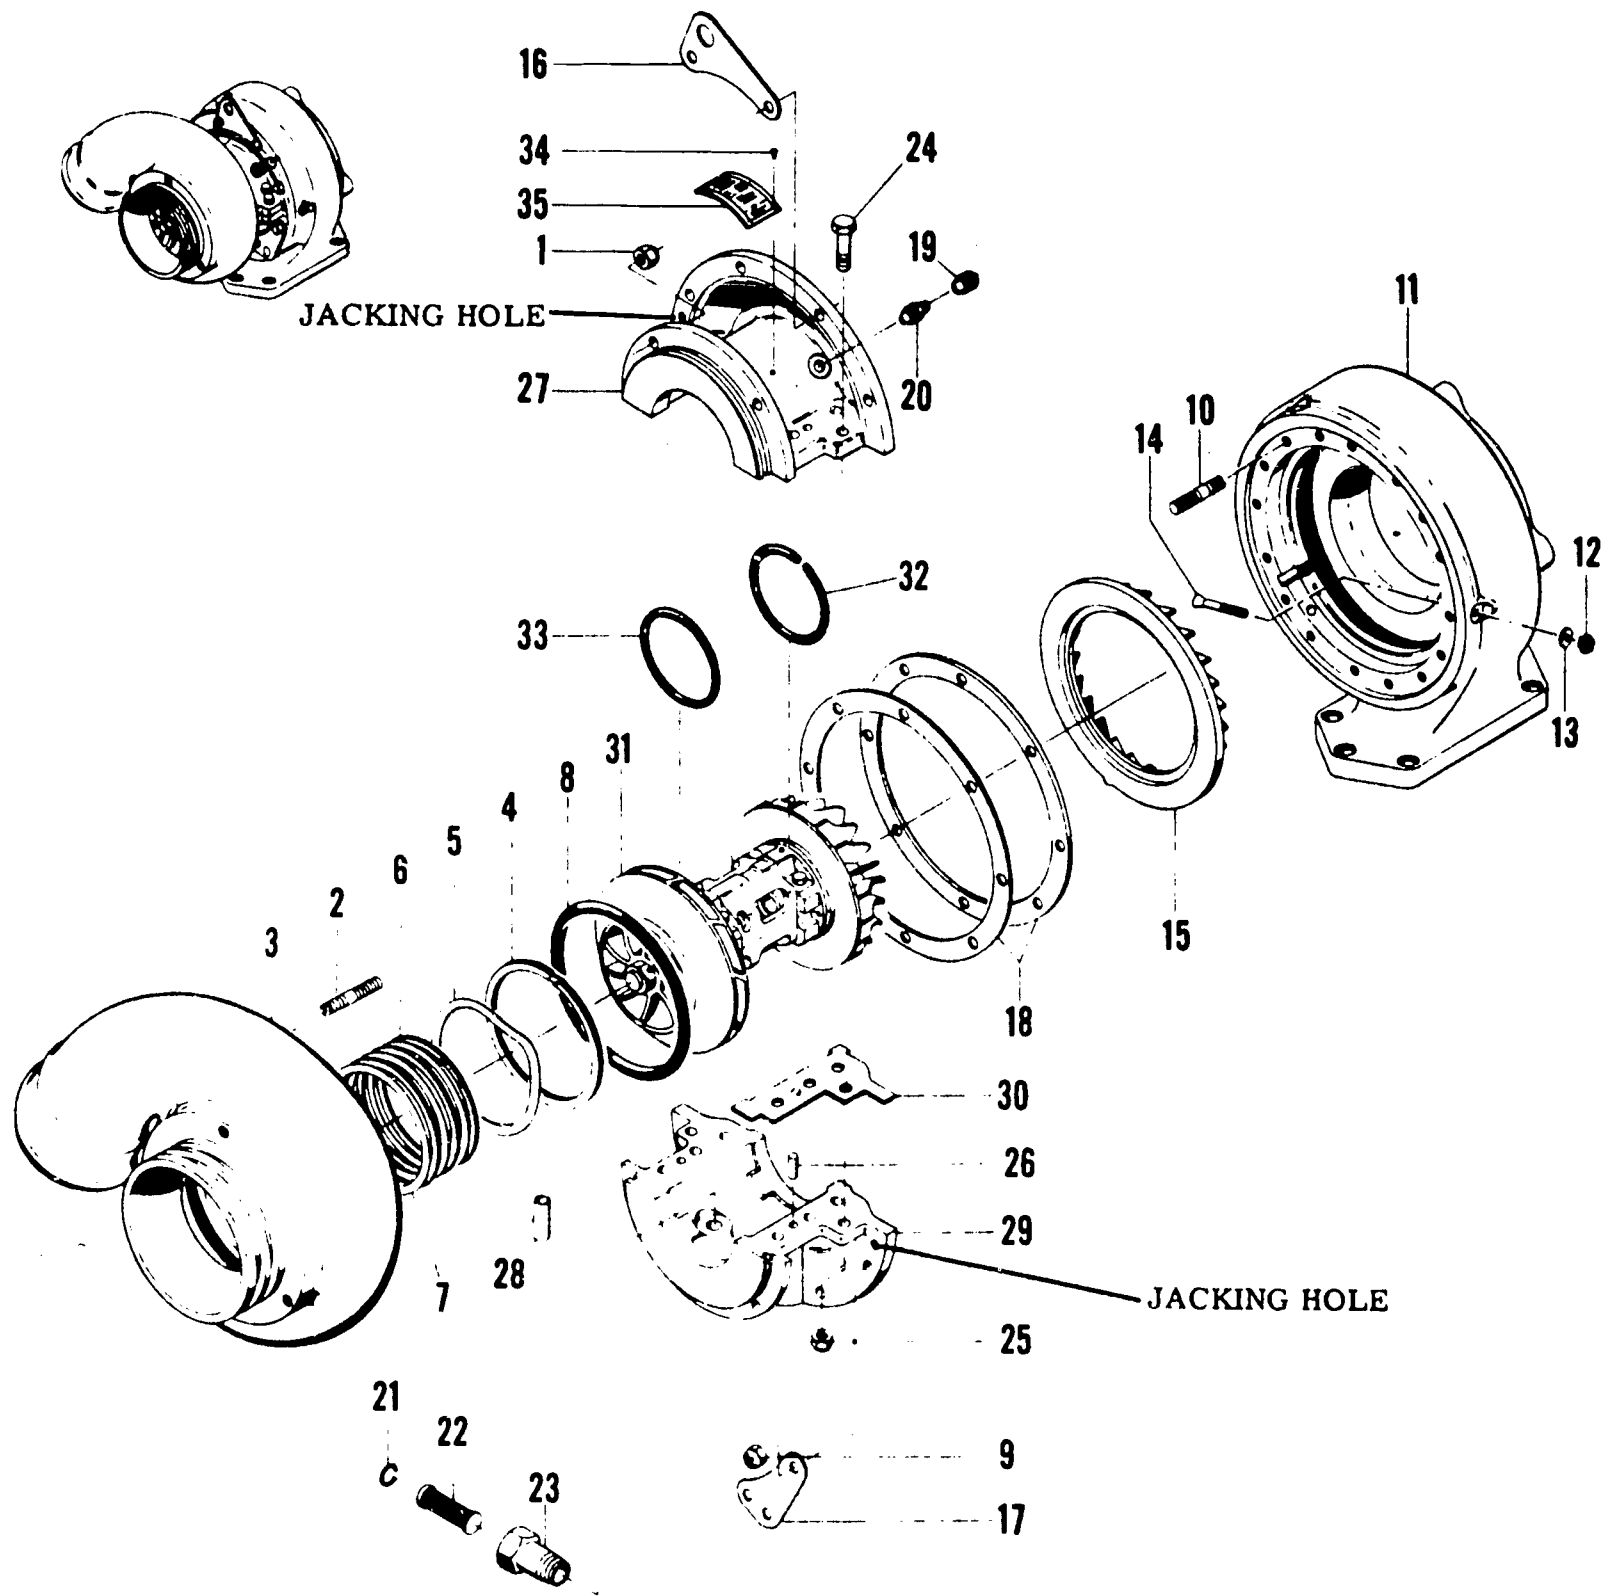

Fig. 17 - Turbocharger details and relative location of parts
BEARING CLEARANCE INSPECTION -- This determines whether or not it is necessary to replace rotating cartridge assembly (31), shown in Figure 17. Prior to checking the bearing clearance, it is necessary to remove the air inlet exhaust discharge ducting from the turbocharger.
1. Fasten a dial indicator on turbine housing (11) with indicator registered on smallest diameter of turbine wheel hub.
5. Fasten a dial indicator on compressor housing (3) while indicator registered on compressor impeller nut.
parts are removed, place them on a clean workbench in the order of disassembly. Care must be taken to prevent damage to the components while they are on the workbench, see Figure 17.